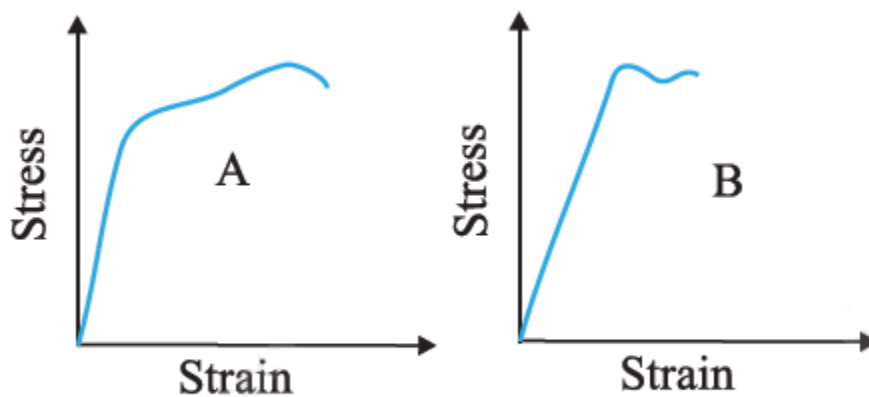

Fig. 9.12
9.3. The stress-strain graphs for materials A and B are shown in Fig. 9.12.